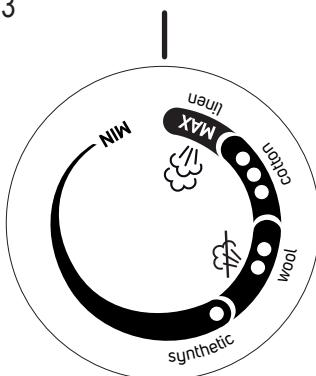

Fig.4
- ◆ The indicator lamp (B) will light up (Fig.4)
- ◆ During the heating process, and depending on the setting, the (C) indicator will flash until the steamer reaches temperature, once this happens the indicator will remain constant, indicating that it is fully ready to iron. This process takes about 60" and is controlled by the product's electronics.
- ◆ Wait until the pilot light (B) has gone out which will indicate that the appliance has reached an adequate temperature.
- Press and hold the steam button (C) for 10 seconds
- ◆ During use the pilot light (B) will automatically flash on and off, thus indicating that the heating elements are operating in order to maintain the desired temperature.